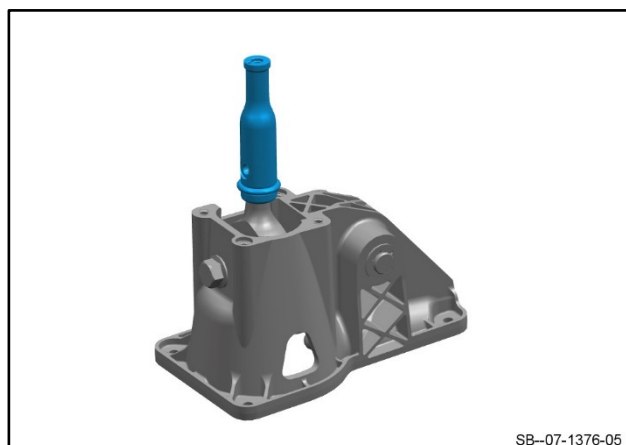

Figure 4
5. Remove the extension for the gear selector (refer to Figure 4).